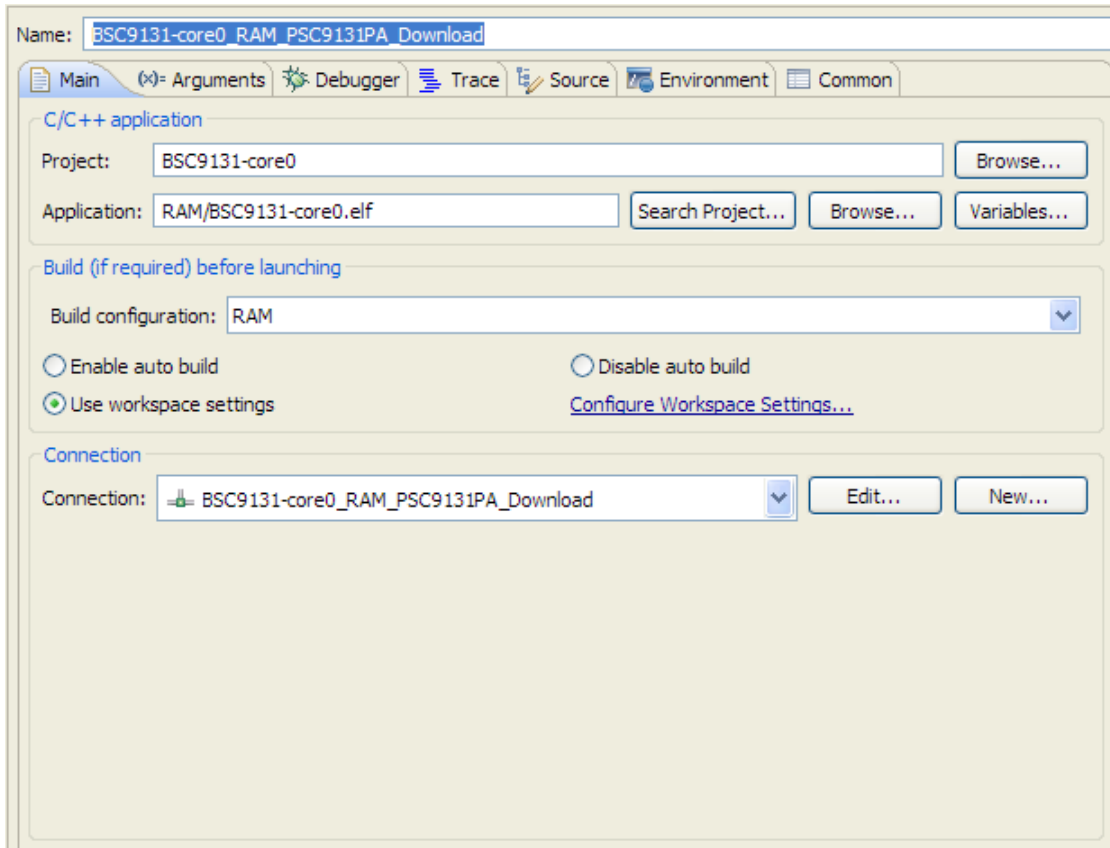

Figure 24. Settings for the BSC9131 Power Architecture project
- For this example, a two-TAP scheme is used with the caches disabled, so choose the BSC9131-core0_RAM_PSC9131PA_Download configuration. Note that the name also uses PSC9131PA, which specifies the two-TAP scheme. Details of the settings for this particular configuration appear at the right in the **Debug Configurations** window (Figure 24).